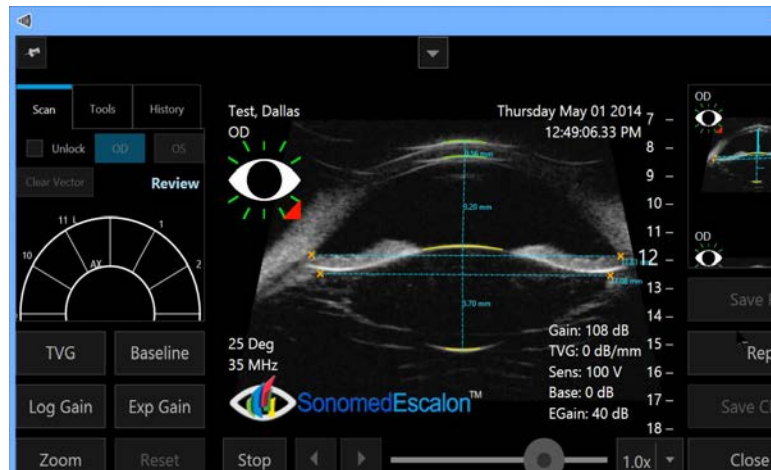

Figure 13: Eye Tracking Software
3. If test is done on Vumax HD. Under the tools  click on Eye Tracking software icon  (Figure 13)